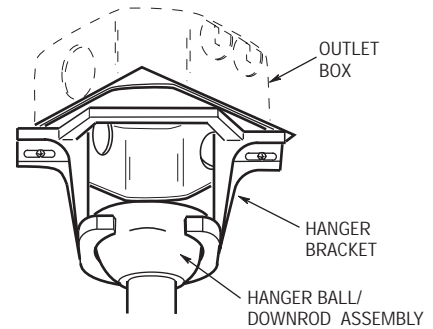
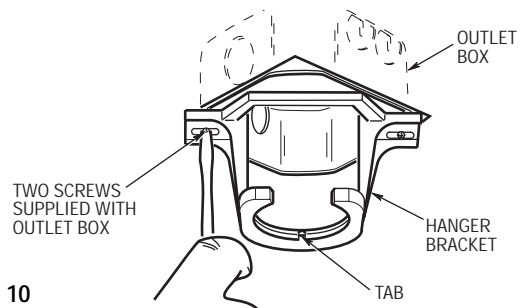

Figure 11
Figure 10
1. Securely attach the hanger bracket to the outlet box using the two screws supplied with the outlet box. (Figure 10.)
2. Carefully lift the fan and seat the hanger ball/downrod assembly on the hanger bracket that was just attached to the outlet box (Figure 11). Be sure the groove in the ball is lined up with tab on the hanger bracket (Figure 10).